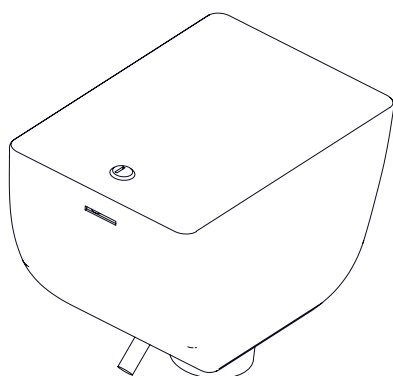

Fig.5.5a
- Coffee bean container (see fig.5.5a);